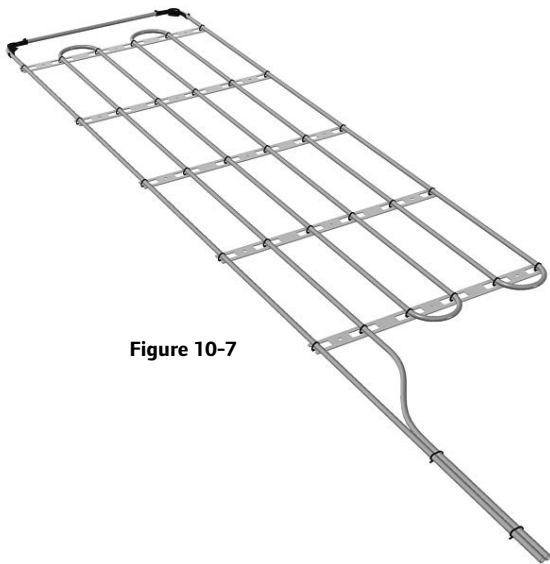

Figure 10-7
The reverse-return header in the mat uses ¾" tubing and can connect to either ½" or ⅝" tubing using Uponor Engineered Plastic (EP) Reducing Tee fittings. Each mat is equipped with one supply-and-return line and SpaceGuard support strips that allow tubing in the mat to be accurately spaced and fastened. Mats are pre-pressurized at the factory. **Figure 10-7** shows a two-dimensional drawing of a reverse-return header system. The system uses one central wall manifold, which serves as an origination for the distribution flow system. There are four mats with the reverse-return header connected to the central wall manifold; each mat contains 10 single-pass loops.